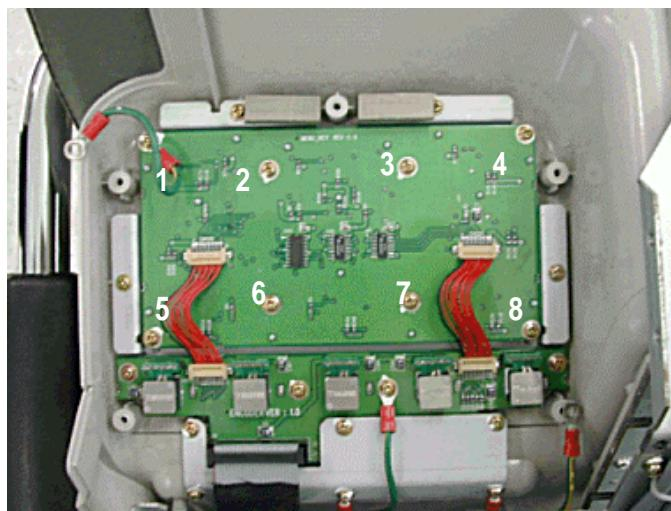

Figure 8-40 Unscrew 8 screws
- 2.) Disconnect two connectors and unscrew 8 screws. Refer to Figure 8-40.